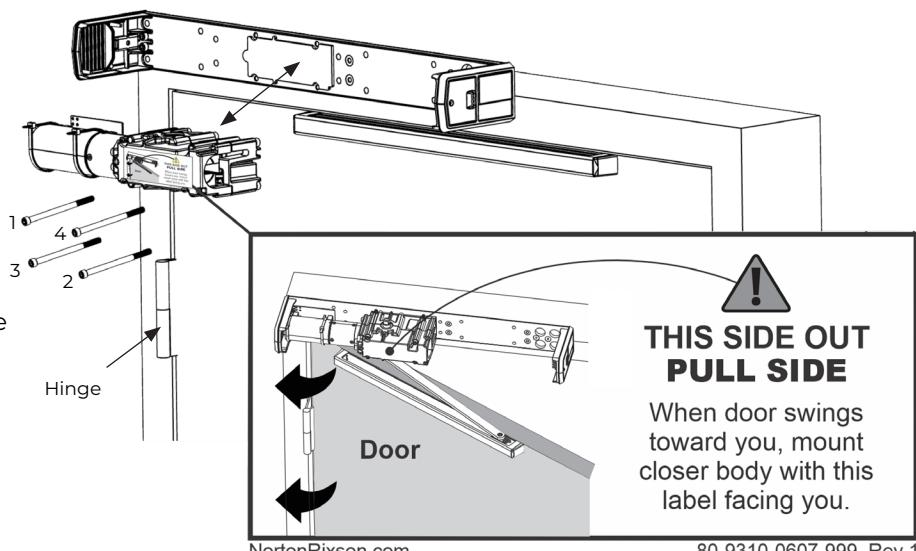

Figure 8 | Right Hand Shown
1. Using four (4) screws provided, install the operator body to the backplate. (Figure 8)
- Tighten screws in a cross pattern until all four (4) screws are tight. (Figure 8)
(Figure 8)